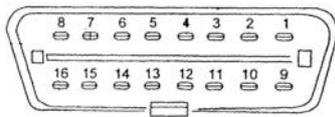

Fig. 4-16
2. read DTC (diagnosis trouble code) (FIG.4-16)